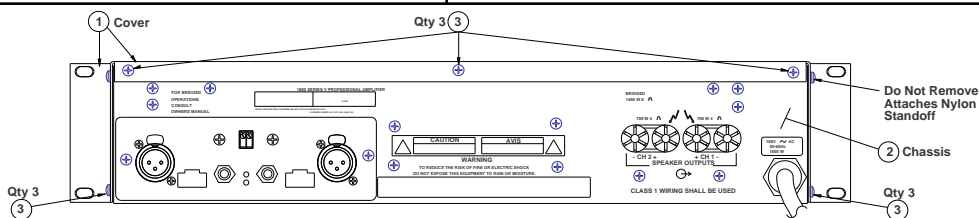

Figure 9. Cover's Attaching Hardware
1.1 Use a phillips-head screwdriver to remove nine screws (3) from the back and sides of the chassis cover (1). Refer to **Figure 9. Do Not** remove the two screws at each top front side of the cover. These screws attach the nylon standoffs on the inside of the cover. Refer to **Figure 12.**
2.1 Align the cover (1) so its front angle fits over the chassis's (2) two front angle hinges. Refer to **Figures 9 and 12.** The cover's nylon standoffs should be behind both of the chassis's angle hinges.
2.2 Secure the cover to the chassis by tightening nine screws (3) with a phillips-head screwdriver. Refer to **Figure 9.**